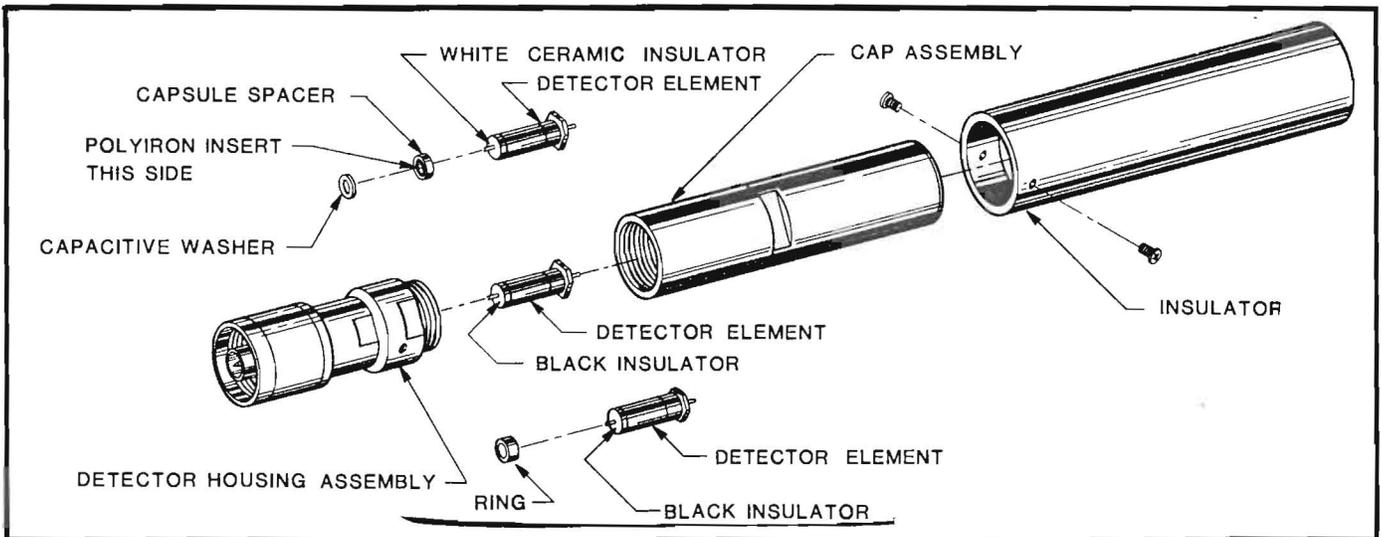

Figure 3. Element Replacement for Detectors Used With the Model 1045 Unit
1. Using Figure 3 on page 3 of this sheet as a guide, remove the two #2-56 screws from the sides of the insulator. Slide the insulator back.
4. Late model detectors have only the detector element; no spacer, washer, or ring. If your detector has no spacer, washer, or ring, then discard the ring from the kit and replace just the element as shown in Figure 3. Make sure that the components are correctly seated and pressed firmly into the detector.